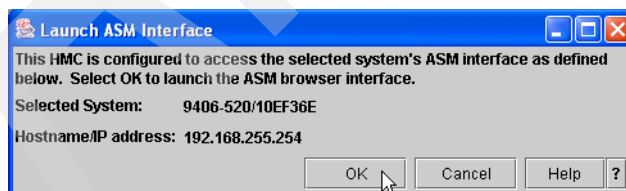

Figure 14-28 Launch ASM Interface screen
5. The Launch ASM Interface screen is then shown (Figure 14-28).